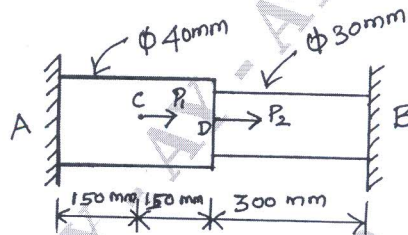

Fig Q1(c)
- c. A Stepped bar of steel, held between two supports as shown in Fig Q1(c) is subjected load $P_1 = 80 \text{ kN}$ and $P_2 = 60 \text{ kN}$. Find the reaction developed at the end A and B.